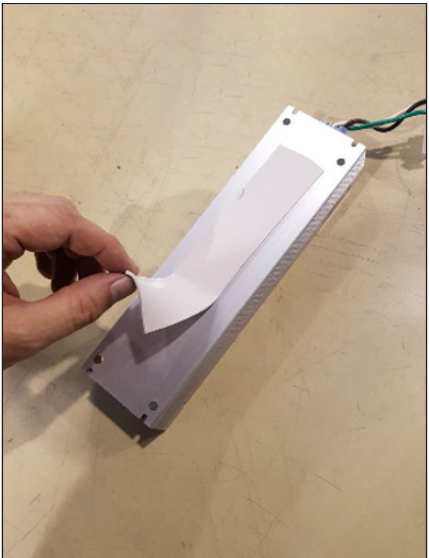

Figure 28: Remove Thermal Pad
6. Remove the thermal pad from the old power supply and replace on the new power supply. Refer to **Figure 28**.